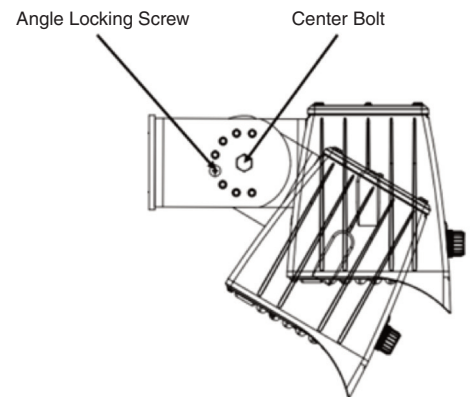

Fig. 2
- 2.) To aim the fixture loosen the center side bolts and remove the two (2) small angle locking screws. Adjust the fixture to the desired angle, ensuring that the holes align, and secure by retightening the bolts and screws. (See Fig. 2)